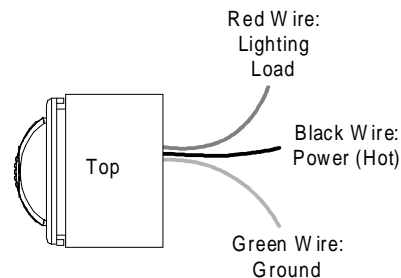

Figure 4: OLS-2000/OLS-2100 Wiring Diagram
4. Wire the OLS-2000/OLS-2100 as shown in Figure 4.